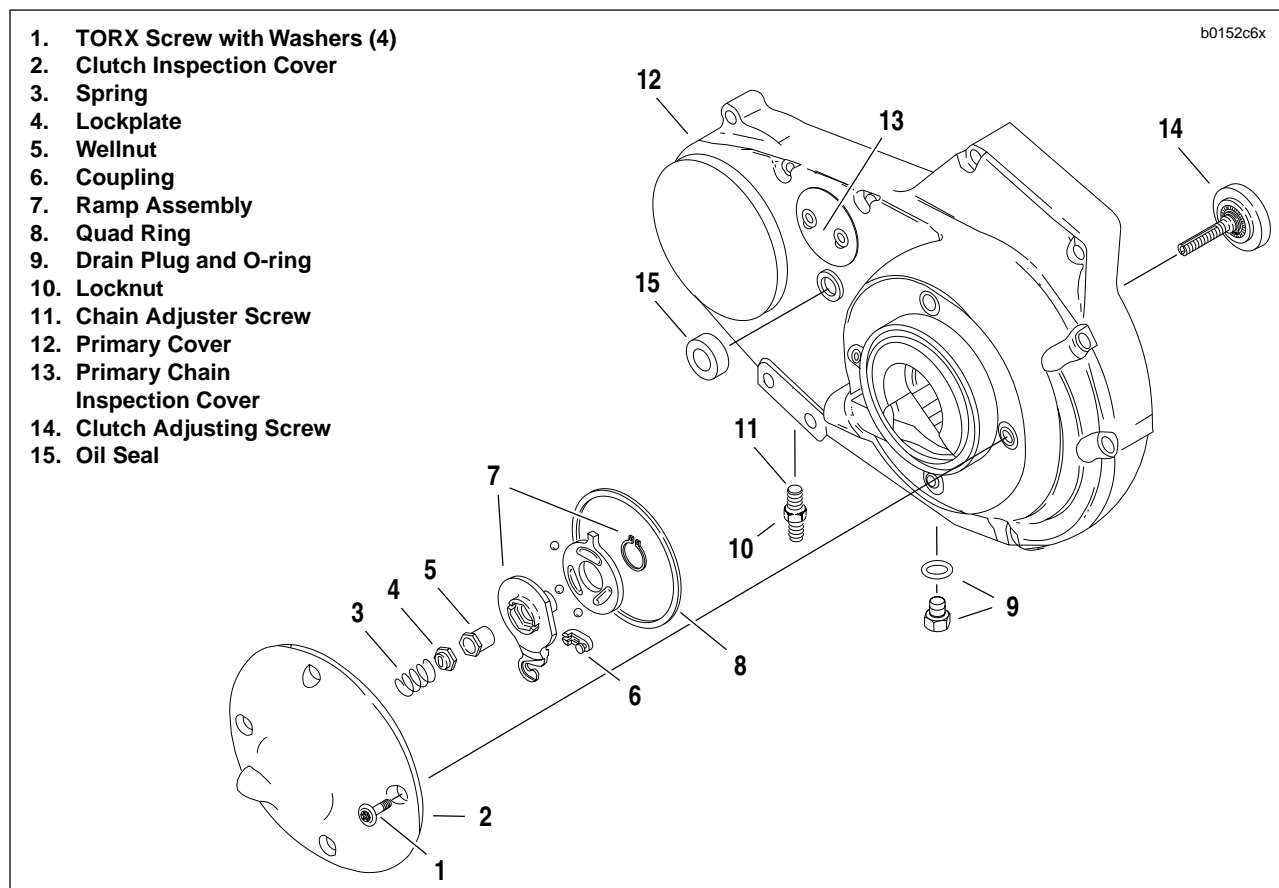
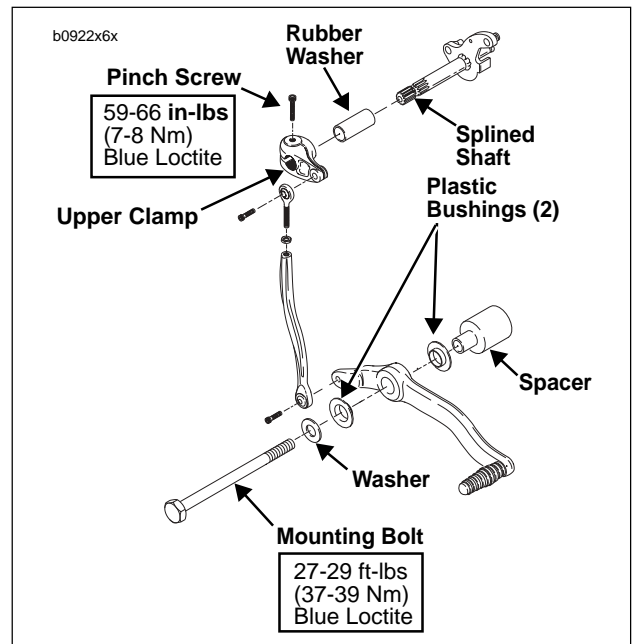

Figure 6-1. Primary Cover
Figure 6-5. Shifter Lever
5. See Figure 6-1. Place a drain pan under the engine. Remove drain plug (9) and drain lubricant from primary drive.
4. See Figure 6-1. Install **new** shifter lever oil seal (15).
5. Fit coupling (6) over cable end with rounded side inboard, the ramp connector button outboard. With retaining ring side of ramp assembly facing inward, place hook of ramp (7) around coupling button and rotate assembly counterclockwise until tang on inner ramp fits in slot of primary cover.
6. Thread wellnut (5) on adjusting screw (14) until slot of screw is accessible with a screwdriver. Fit wellnut hex into recess of outer ramp and turn adjusting screw counterclockwise.
10. See Figure 6-5. Apply **LOCTITE THREAD-LOCKER 243** (Blue) to shift lever mounting bolt.